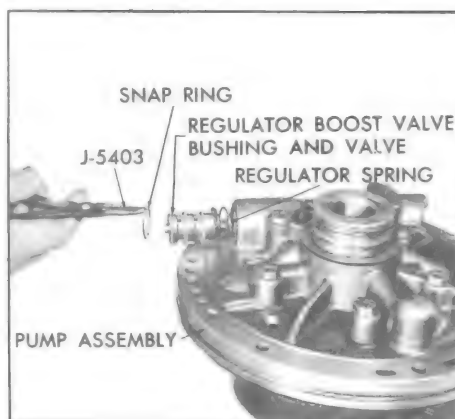

Figure 5-577
2. Compress the regulator boost valve bushing against the pressure regulator spring and remove the snap ring, using J-5403 pliers. See Figure 5-577.